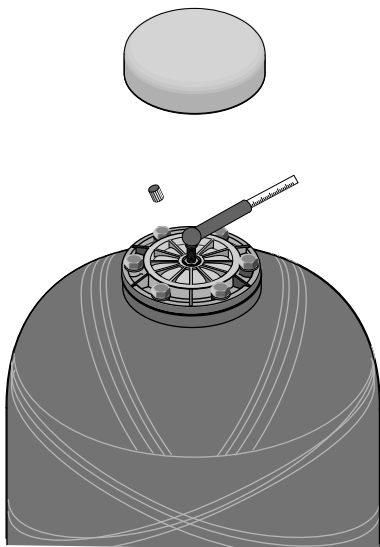

Figure 6: Use A Tire Gauge To Check Pre-charge In Air Cell
4. Recharge tank with air pressure (see Figure 6, page 5) according to Chart I, Page 3; install valve cap; reconnect power to pump. Tank is ready for service.